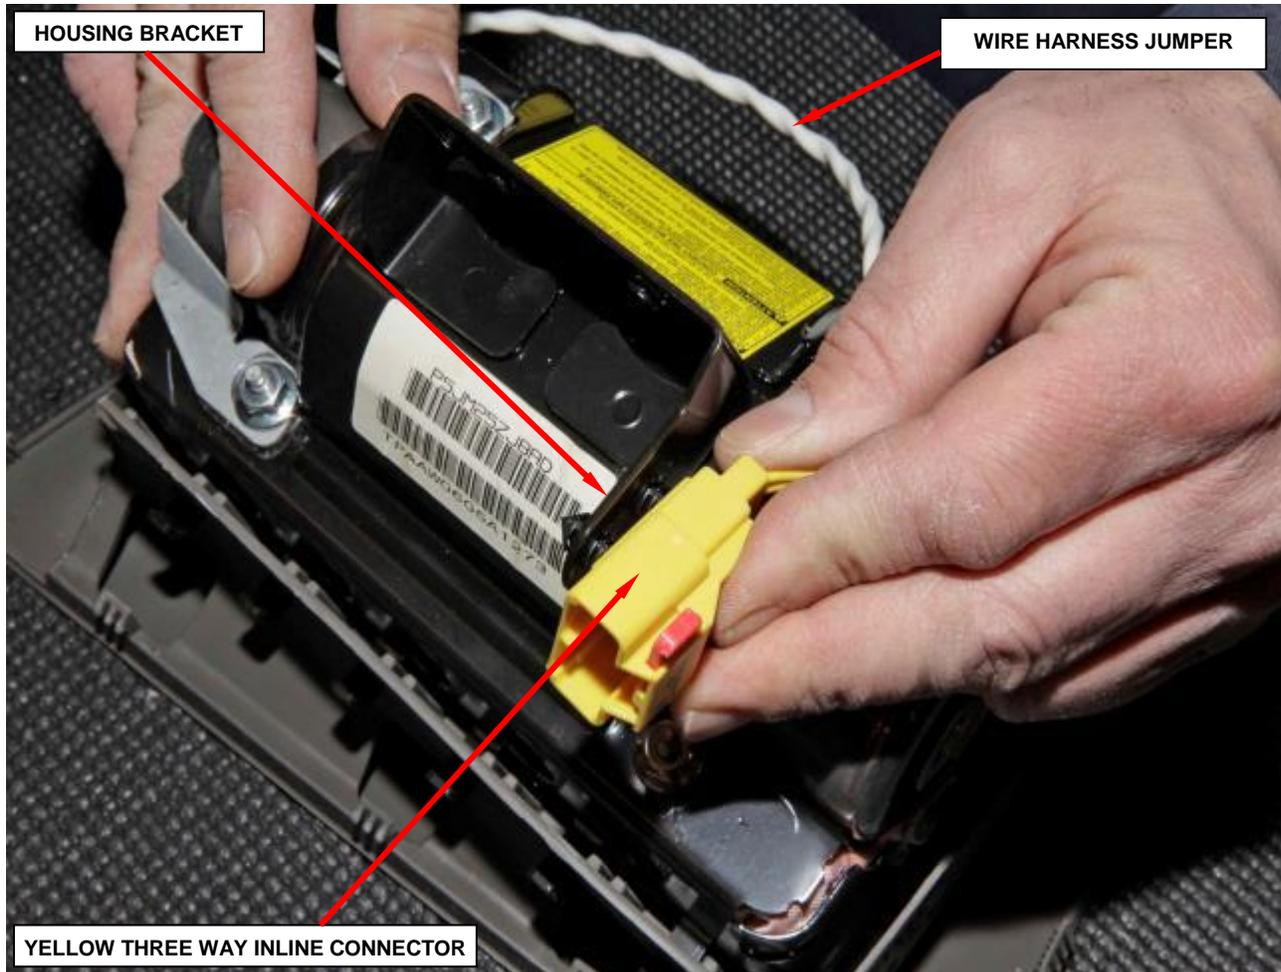

Figure 35 – Inflator Connectors
- d. Release the yellow three way inline connector from the housing bracket (Figure 35).
- j. Install the yellow three way inline connector to the housing bracket (Figure 35).